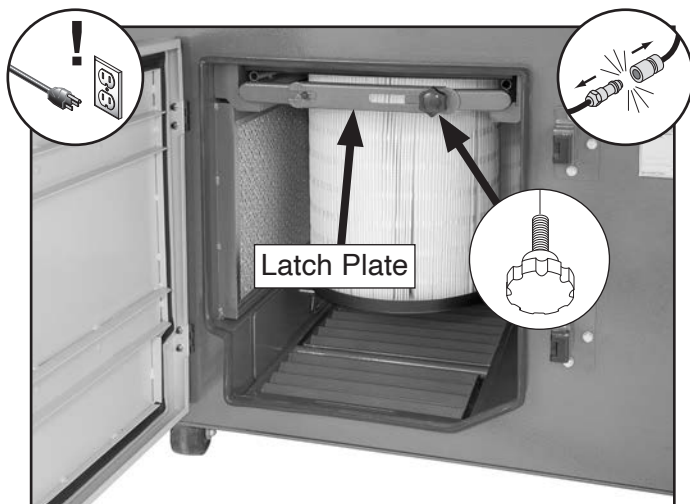

Figure 46. Location of filter retaining knob and latch plate.
3. Pull (2) maintenance door handles to open maintenance door.
4. Loosen knob shown in **Figure 46**, then slide latch plate right.